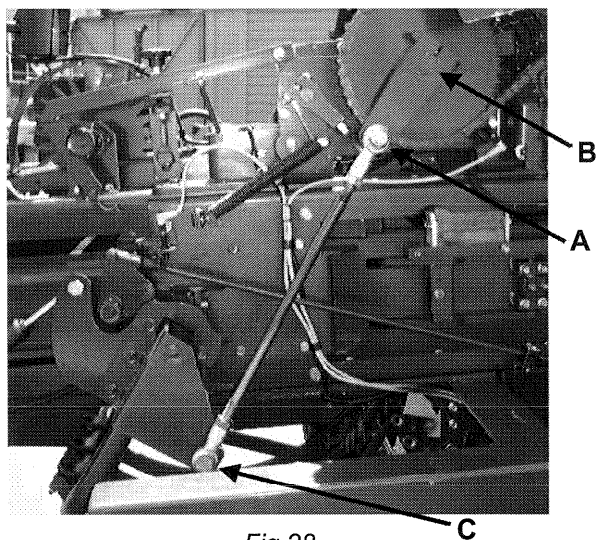
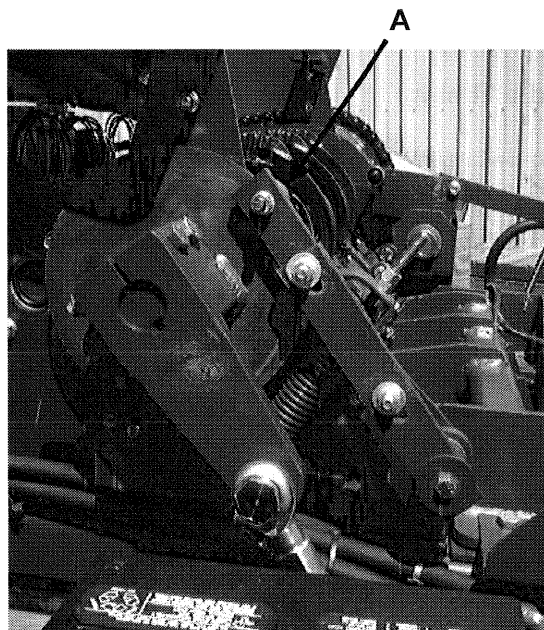

Fig.28
Fig.29
A. With needles in the home position, set the needle yoke drive bolt "A," Fig.28, 1/4" (6mm) to 1/2" (13 mm) past center between "B" and "C." To obtain this setting, adjust saddle roller "A," Fig.29, on the opposite side of the knotter.